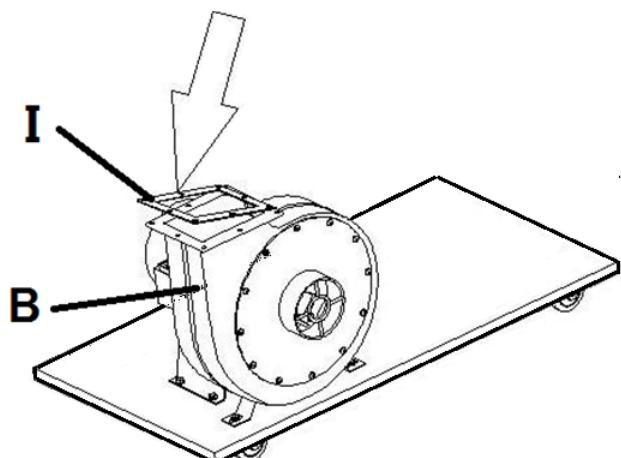
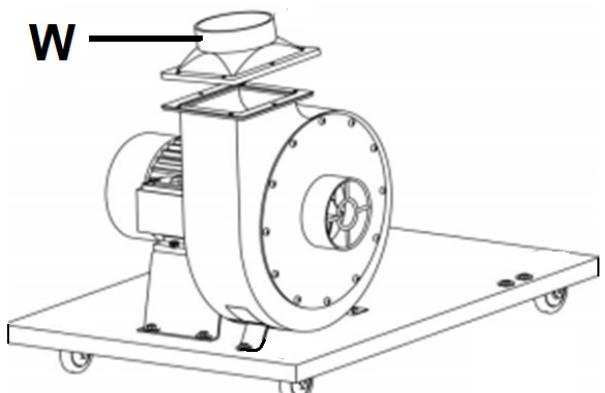

Fig 5
Fig 6
Install the gasket (I, Fig 5) and mount the outlet connector (W, Fig 6) to the collector body (B) with screws and washers provided (Fig 5 & Fig 6).